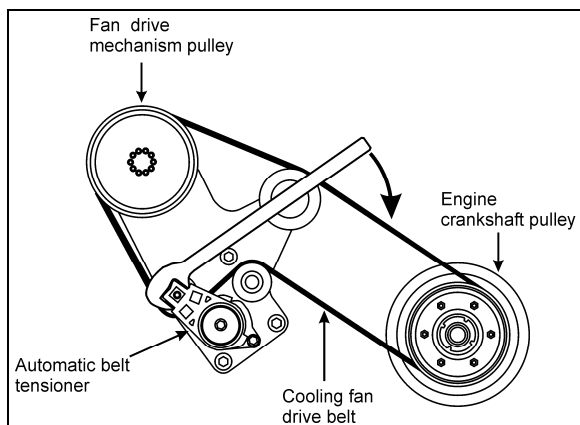

FIGURE 36: DRIVE BELT ROUTING (VOLVO D13 ENGINE)
2. Using the special tool included with your vehicle (see inside the Warning Reflectors box located in the first curb-side baggage bay), rotate the automatic tensioner in clockwise direction to relieve tension on the belt and hold the tensioner in that position (Fig. 36).